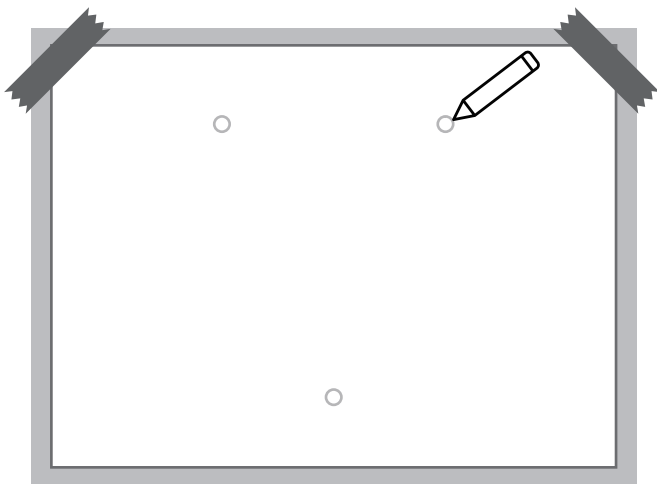

Fig. 5-4
2. Mark the mounting holes on the wall with the installation template. (See Fig. 5-4)